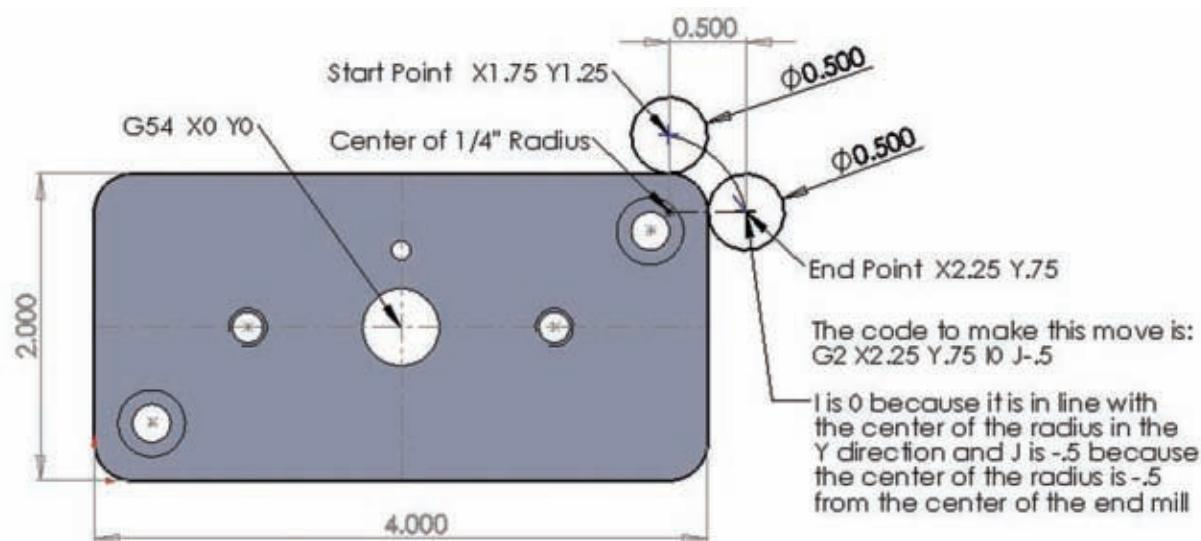

Figure 8-10 How I and J values are derived.
22. G2, which is used for cutting an arc, is defined as circular interpolation clockwise. (see Fig. 8-10)
With that in mind, the I value, which corresponds with Y, is zero because it is in line in the Y direction with the center point of the radius (see Figure 8-10). The J value corresponds with X is -.500 because the center point of the radius is 1/2" in the negative direction from the J value. If you think of I and J values as “how you would get back to the center of the radius from the end of the move,” you can’t go wrong.
Figure 8-10 shows how I and J values are derived.